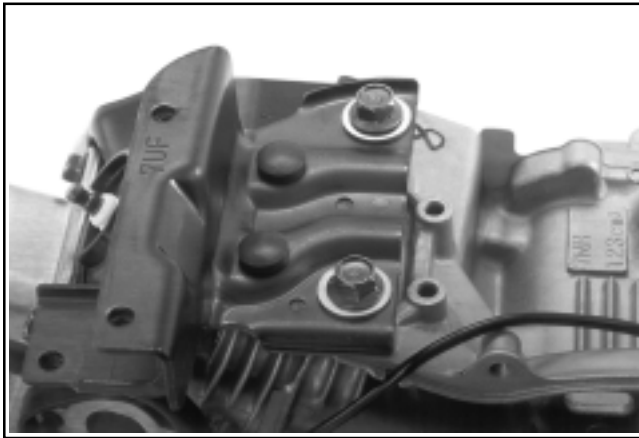

Figure 9-34. CS4, CS6 Left Side Tank Mounting Bracket Details.
1. Remove the left fuel tank mounting bracket by removing the two screws. Figure 9-34 and 9-35. Washers are used on the CS4 and CS6 only.